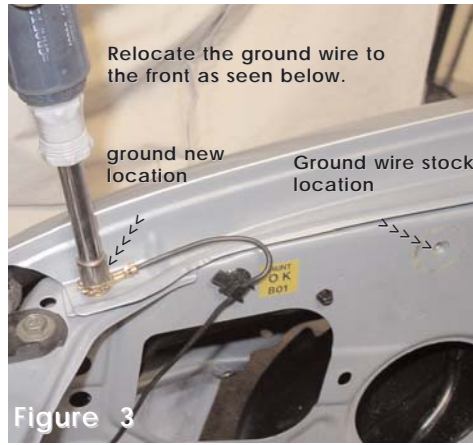

Figure 3
- 3- Unscrew the m6 bolt holding the ground wire in the inside fender well. (See fig. 3) Unscrew the m6 bolt on the top corner of the fender and relocate the ground wire. Use the same m6 stock bolt to secure the ground wire in place. (See fig. 3)